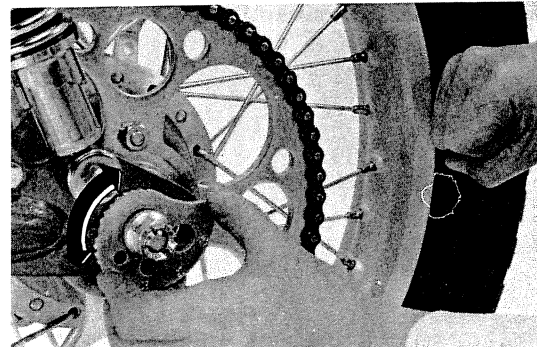

Fig. 12
- 3) Should you experience difficulty in rotating the adjuster, hold it with a hand and rotate while tapping on side of the tire with the other. (Fig. 12)